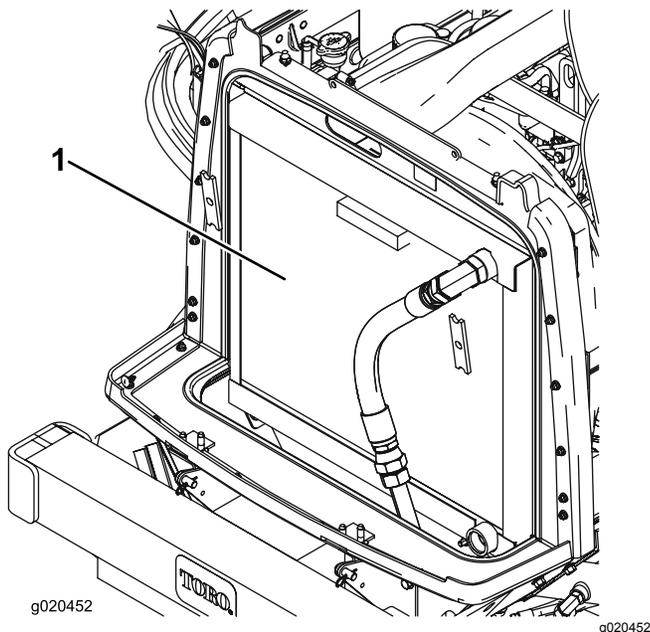

Figure 74
3. Clean both sides of the radiator/oil cooler area thoroughly with compressed air (Figure 74).